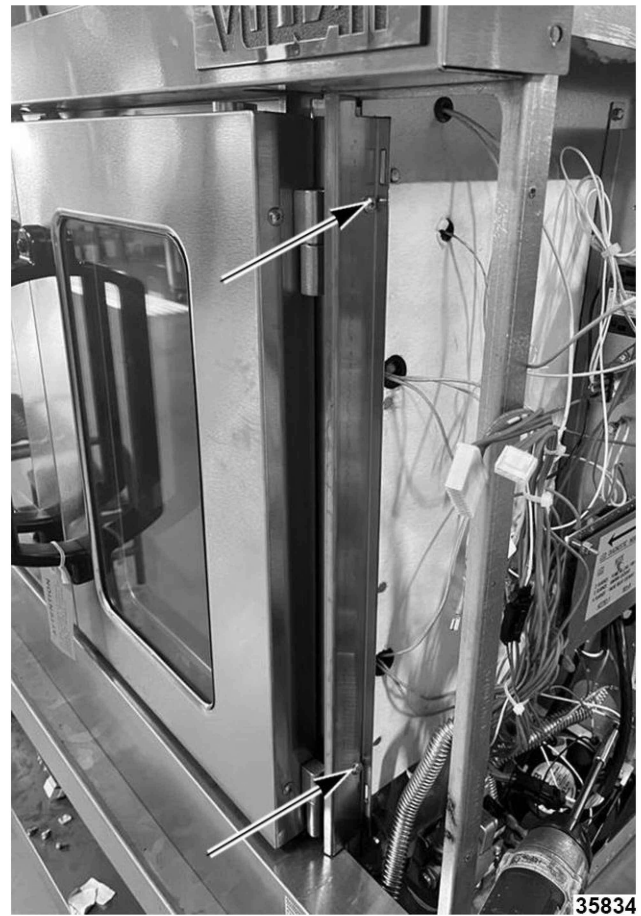

Fig. 24
3. Remove panel trim (Fig. 24).